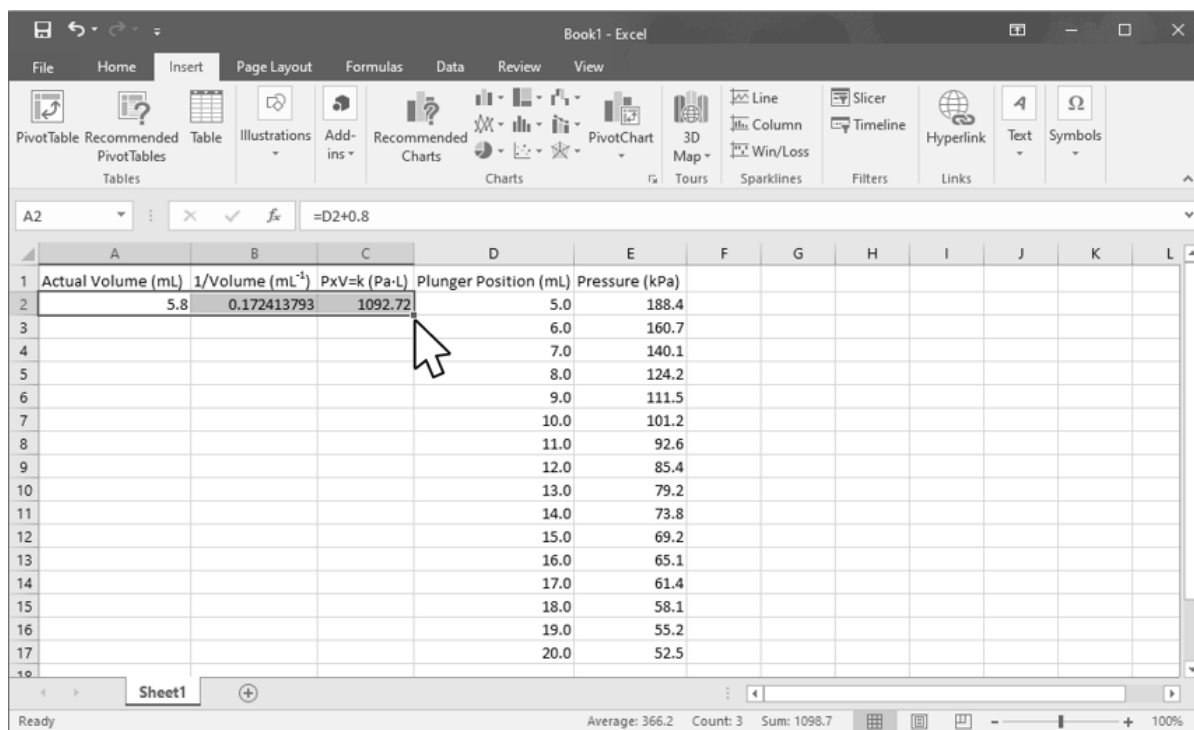

Figure 3. A partially complete Excel® data table.
13. Once the first row of your data table is complete, click and drag to select the three cells that contain calculations. When these cells have been selected, a box will appear around them with a dark “dot” on the bottom-right corner (*Figure 3*). Double click on this dot and Excel® will automatically calculate all the rest of the rows in your data table.